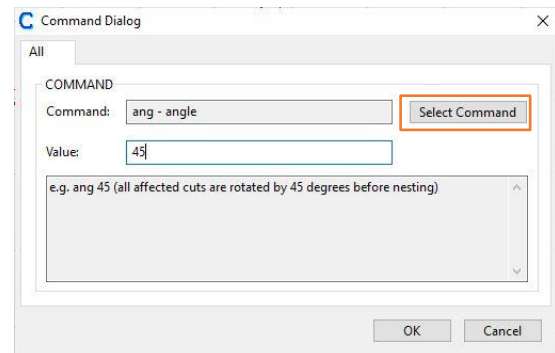

Figure 84
- Click **Select Command** (Figure 84).
- Enter "45" and confirm with **OK** (Figure 84).